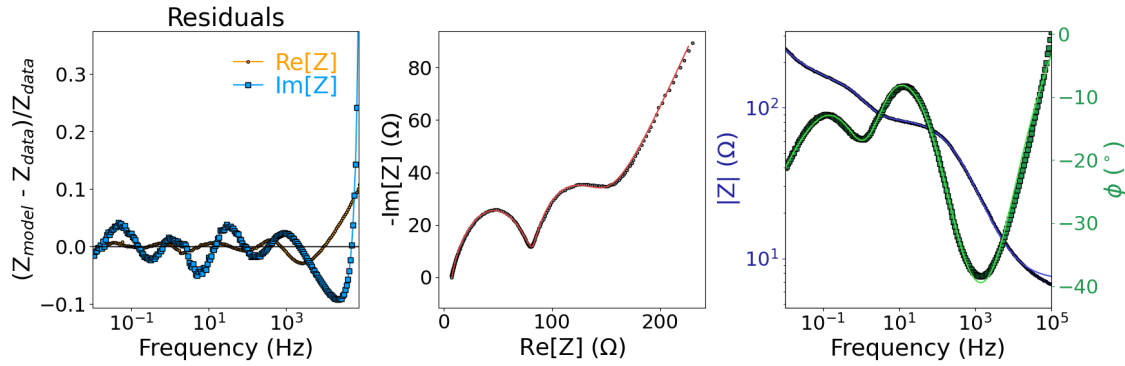

Figure 38: Final refinement result.
18. The final refinement step covers the entire frequency range and all parameters. With the **Calculated modulus** weighting scheme, the result is Figure 38.